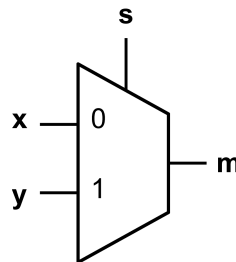
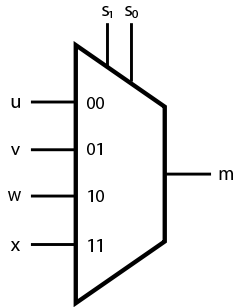

Figure 1: Symbol for a 2-to-1 multiplexer
Figure 3: Symbol for a 4-to-1 multiplexer
Schematics typically illustrate the structure of your circuit, much like the schematics in Lab 1 showed how your circuit should be built. Figure 1 and Figure 3 are examples of how to draw the schematic for multiplexers.
Figure 1 shows the symbol for a 2-to-1 multiplexer. As mentioned in Lab 1, a multiplexer is a device that uses a select signal to select which one of multiple inputs should appear on the output of the device. In Figure 1, input *s* will control which of the inputs *x* and *y* will appear on the output *m*. If *s* is 0, *x* will appear on the output, while if *s* is 1, *y* will appear on the output.
Now construct a module for the 4-to-1 multiplexer shown in Figure 3 with the truth table shown in Table 1 using wires and multiple instances of the *mux2to1* module. Note that the truth table in Table 1 is given in a short-hand form. A real truth table would consist of rows enumerating all possible combinations of values of inputs  $u$ ,  $v$ ,  $w$ ,  $x$ , in addition to  $s_0$  and  $s_1$ , and show the value (0 or 1) of the output  $m$  for each row of the truth table. Since this would result in a truth table with a large number of rows, it is written in short-hand form instead.
5. Map your Logisim design to the DE1-SoC board inputs and outputs. Use switches  $SW_{9-8}$  as the 2-bits input, and switches  $SW_{0-3}$  as the data inputs (labeled as u,v,w,x in Figure 3). Connect the output m to  $LEDR_0$ . **(PRELAB)**